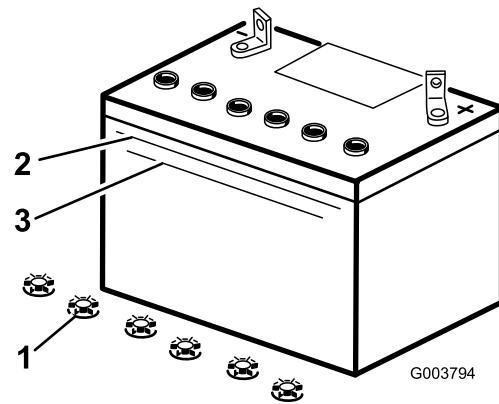

Figure 34
3. Look at the side of the battery. The electrolyte must be up to the Upper line (Figure 34). Do not allow the electrolyte to fall below the Lower line (Figure 34).
3. Remove the filler caps from the battery (Figure 34).
4. Slowly pour distilled water into each battery cell until the electrolyte level is up to the Upper line (Figure 34) on the battery case.
level is up to the Upper line (Figure 34) on the battery case.